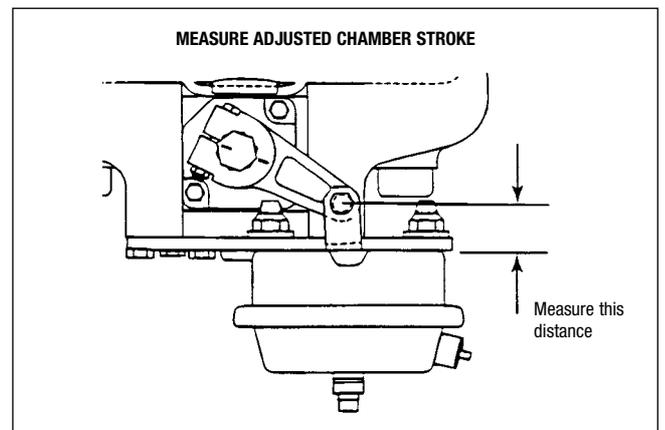

FIG. 14
1. **Stroke length:** Check the adjusted chamber stroke as follows (Fig. 14).